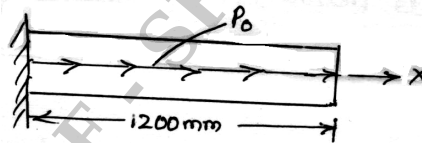

Fig Q4(a)
4. a. Fig Q4(a), show a bar subjected to a UDL of $P_0 = 100\text{N/m}$, Take $E = 70\text{GPa}$, Area (A) = 10^4mm^2 to determine : i) Nodal displacements ii) Stress in element.